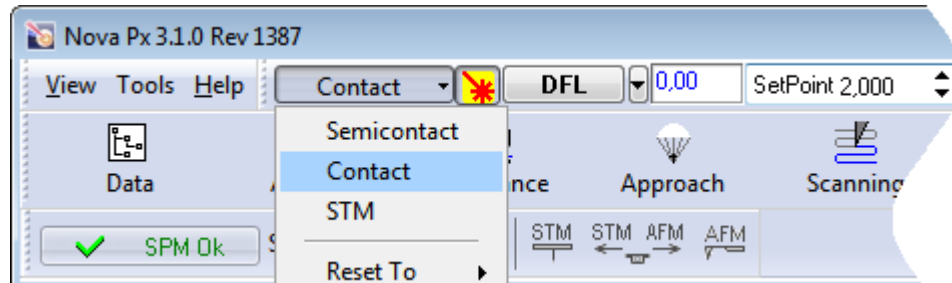

Fig. 12-22. Selecting controller configuration
1. Select **Contact** in the drop-down list of controller configurations of the Nova Px program (Fig. 12-22).